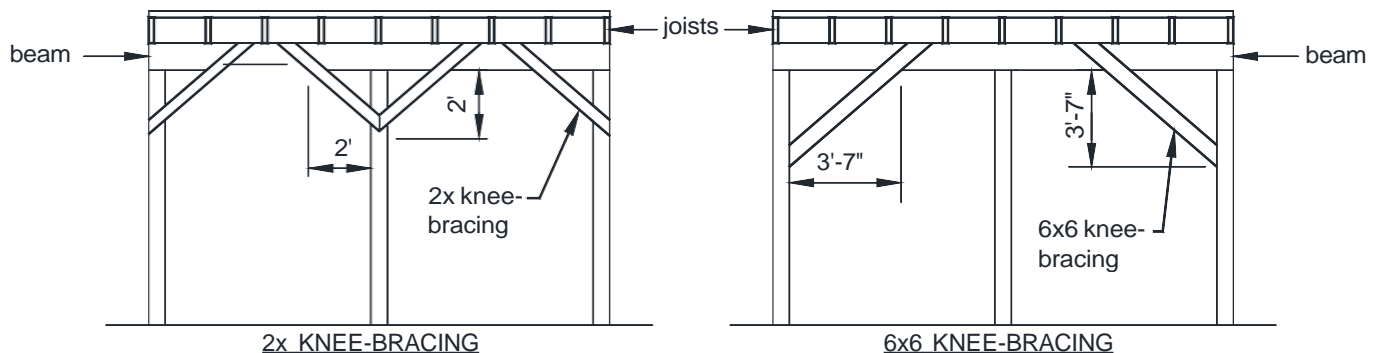

FIGURE 29: METHOD 2 - KNEE-BRACING AT BEAM-POST LOCATIONS
- Decks shall have 2x knee-bracing installed at each post-beam location or 6x6 knee-bracing at end posts and both sides of every other interior post in accordance with **FIGURE 29**.